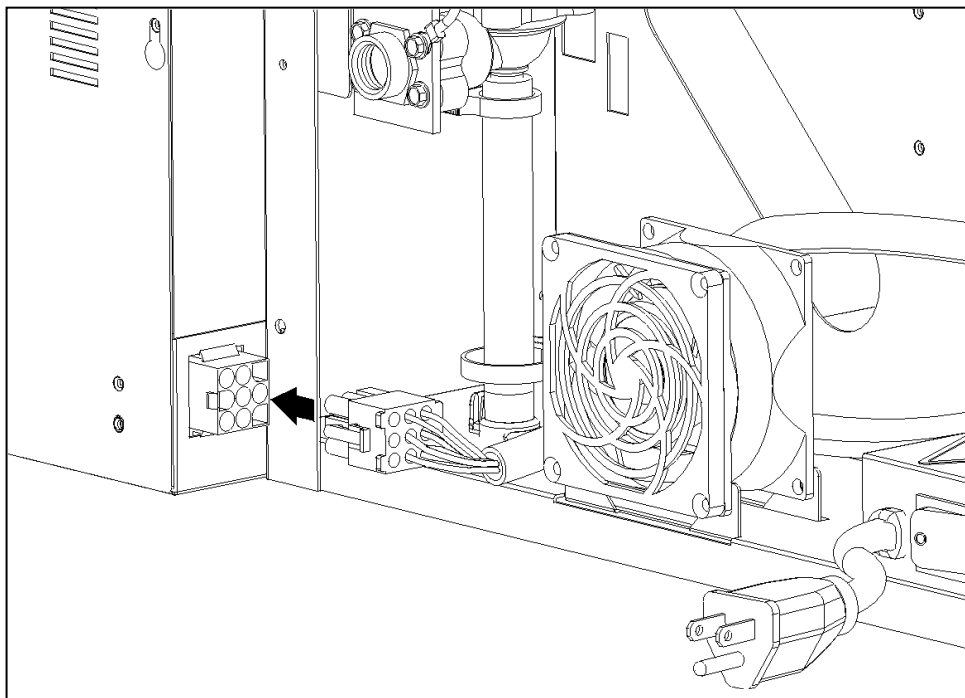

Figure 8 - Connect the other end of the new APP Auxiliary Harness to the Connector on the APP.
4. Connect the large connector on the end of the new wiring harness to the large connector on the APP system (Figure 8).